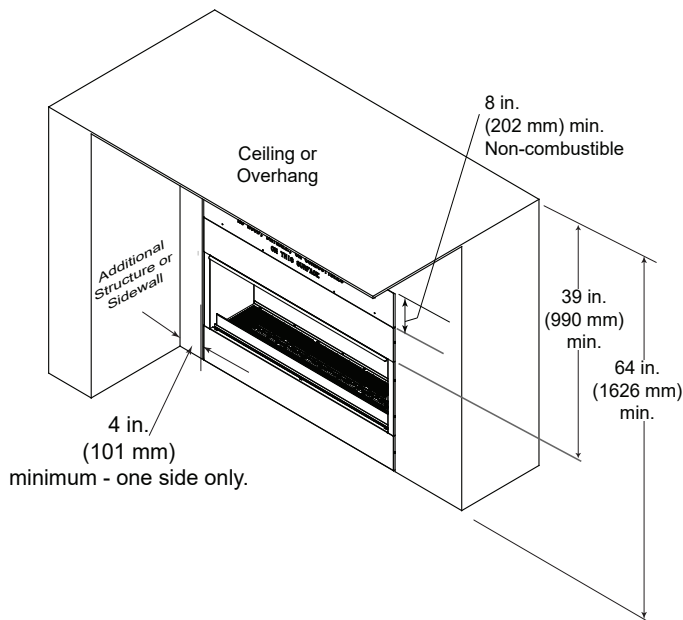

Figure 3.4. Clearances to Combustibles
- Noncombustible wall sheathing material is required 8" above the appliance. (See Figure 3.4)